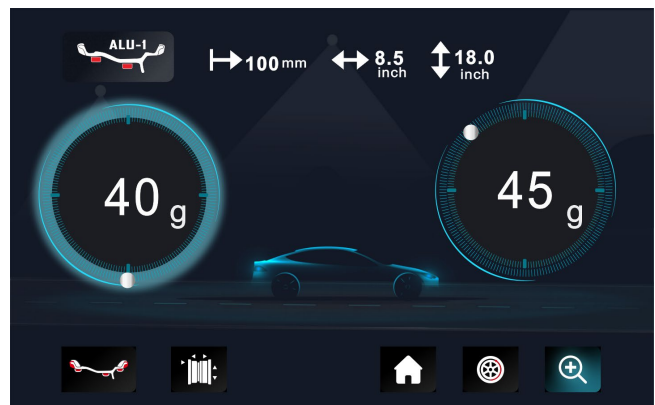

Fig. 7
4.2.6. Press , the displays with left LED's lit up full indicate the correct angular position where to mount the counterweights, 6 o'clock position inside, as Fig.7, add the counterweight.